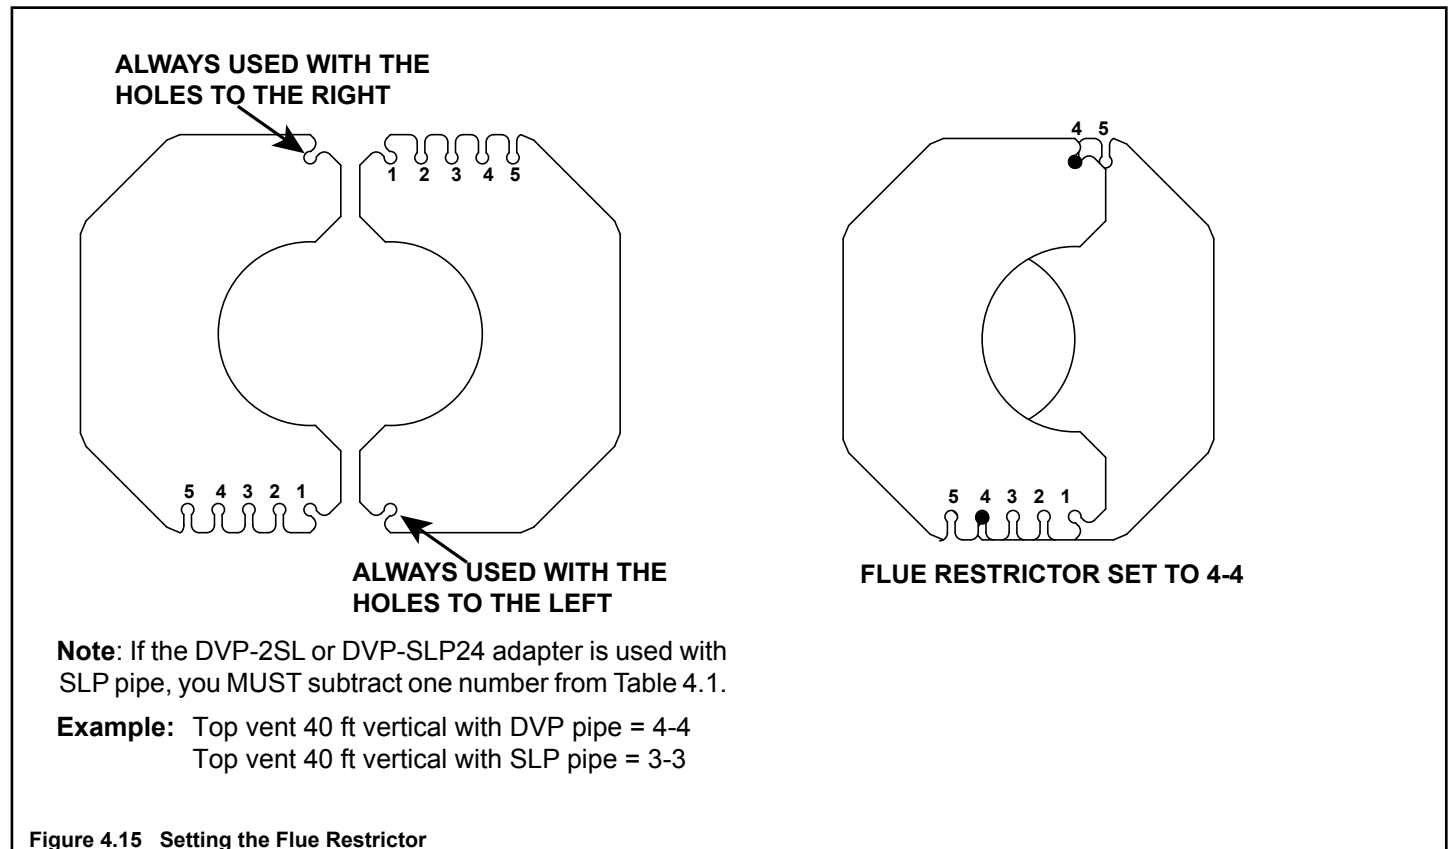

Figure 4.15 Setting the Flue Restrictor
2. Match the amount of vertical you have in the system with the chart to find the appropriate position to set the flue restrictor. See Figure 4.15 and Table 4.1.